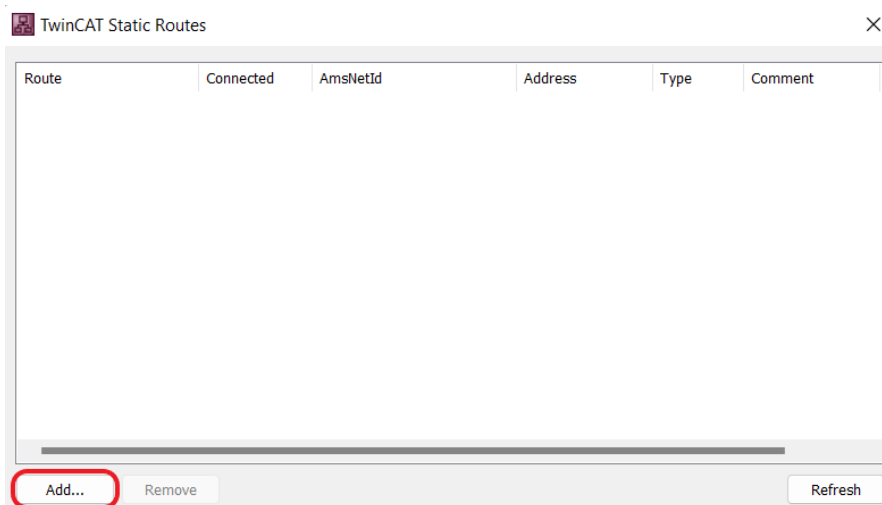

Figure 26: Static Routes – 'TwinCAT Static Routes' window
2. This will open the 'TwinCAT Static Routes' window. This window may already have one or more controllers listed depending on how many different controllers you have connected to previously on this computer. To setup a communications channel/add a static route, click the 'Add...' button at the bottom left of the window highlighted in Figure 26 below.